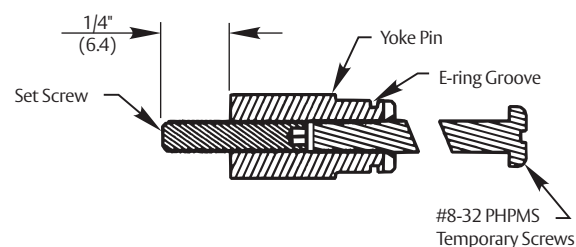

Figure 13
5. Thread #8-32 x 2" PHPMS screws into slotted end of yoke pins, until seated to hex head set screw. See Detail 1 - Figure 13.